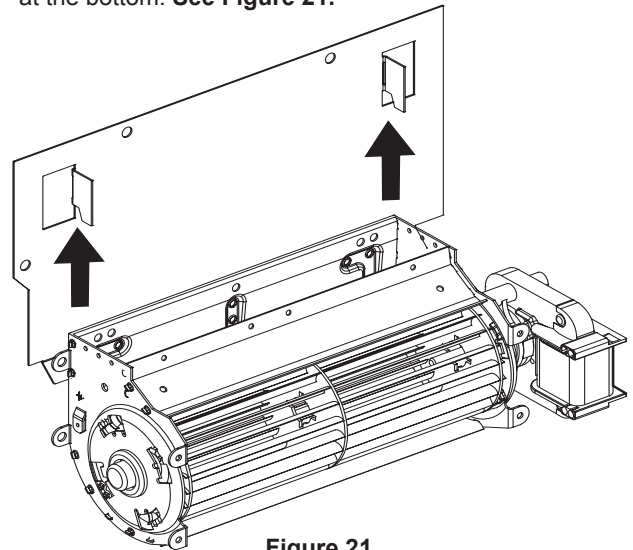

Figure 21
5. The blower plate is on the left side of the fireplace. Slide the blower up into the tabs. Secure it into place with the Velcro at the bottom. **See Figure 21.**